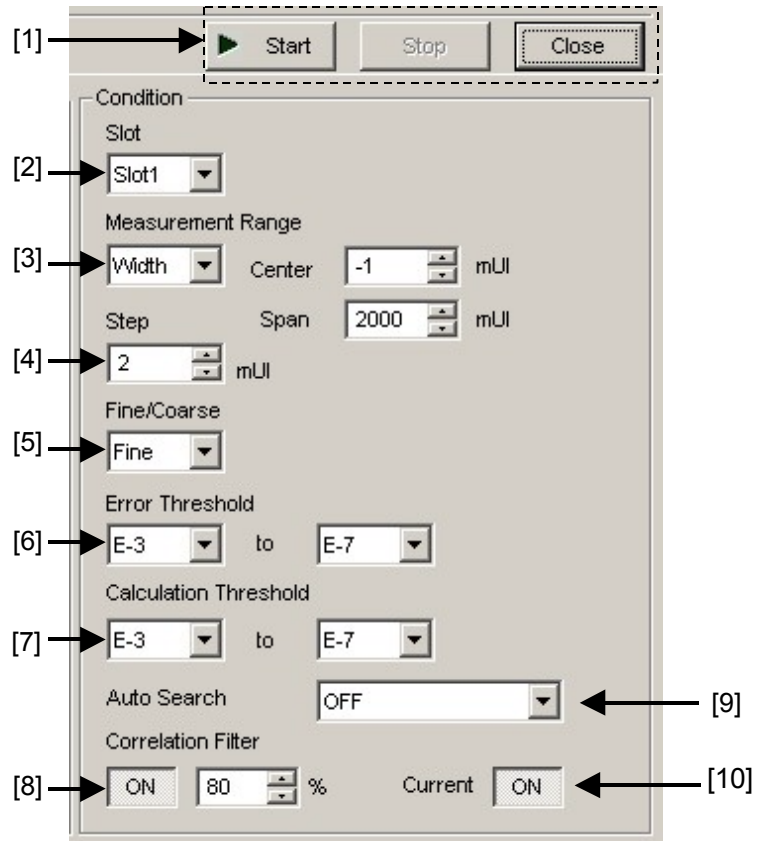

Figure 5.12.2-3 Measurement control area
- [8] Specify whether to show the Max and Step value display indicated by [7] in Figure 5.12.2-2.